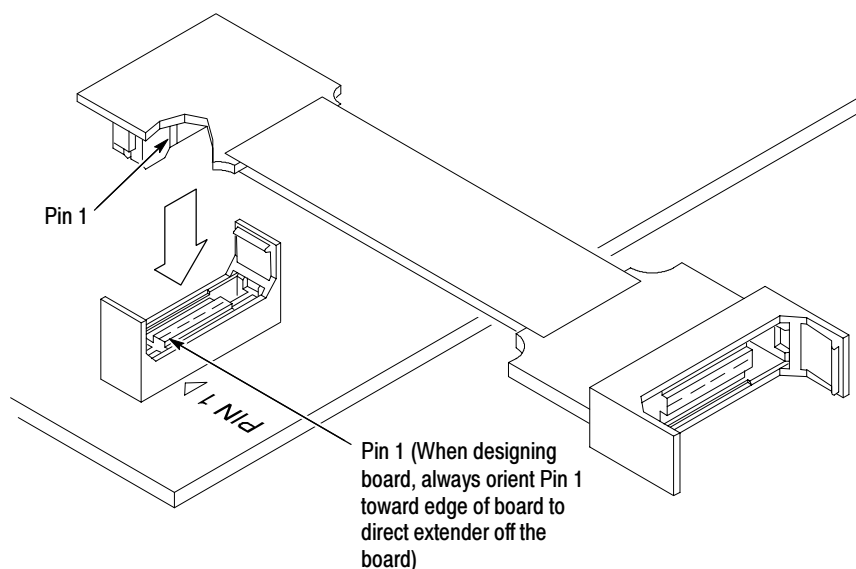

Figure 8: Connecting the low-profile extender
2. Position the low-profile end perpendicular to the connector and gently connect the extender as shown in Figure 8.
NOTE. Be sure to orient pin 1 on the Mictor connector in your target system to direct the extender off the board as shown in Figure 8 on page 9.